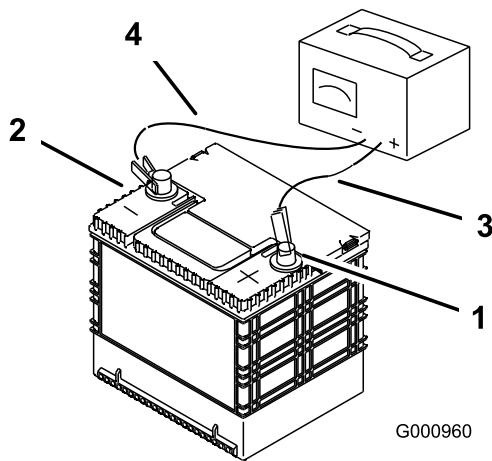

Figure 65
2. When the battery is fully charged, unplug the charger from the electrical outlet, then disconnect the charger leads from the battery posts (Figure 65).